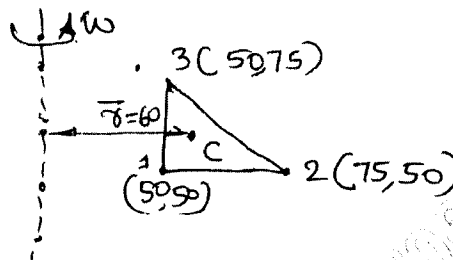

Fig.Q9(b)
- b. For the element of an axisymmetric body rotating with constant angular velocity $\omega = 1000 \text{ rev/min}$ as shown in Fig.Q9(b). Determine the body force vector including weight of material with specific density is 7850 kg/m^3 . (08 Marks)